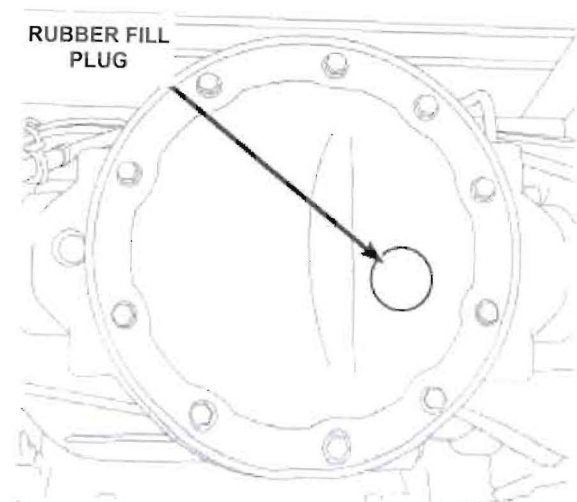

Figure 3
9. Using a mechanic’s creeper, slide under the rear of the vehicle, remove the rubber fill plug on the rear axle cover and check and/or fill the axle gear lubricant as required (Figure 3).